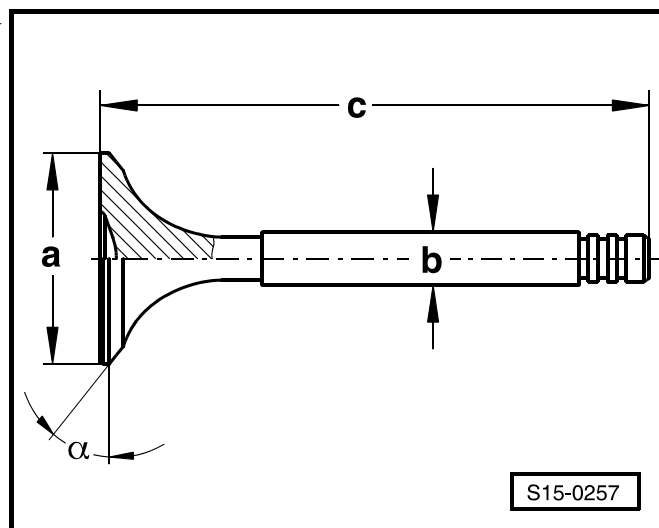

Fig. 5: Reworking lower cylinder head sealing surface ▶
- ☐ reworking sealing surface ⇒ Fig. 5 in **15-2** page 4